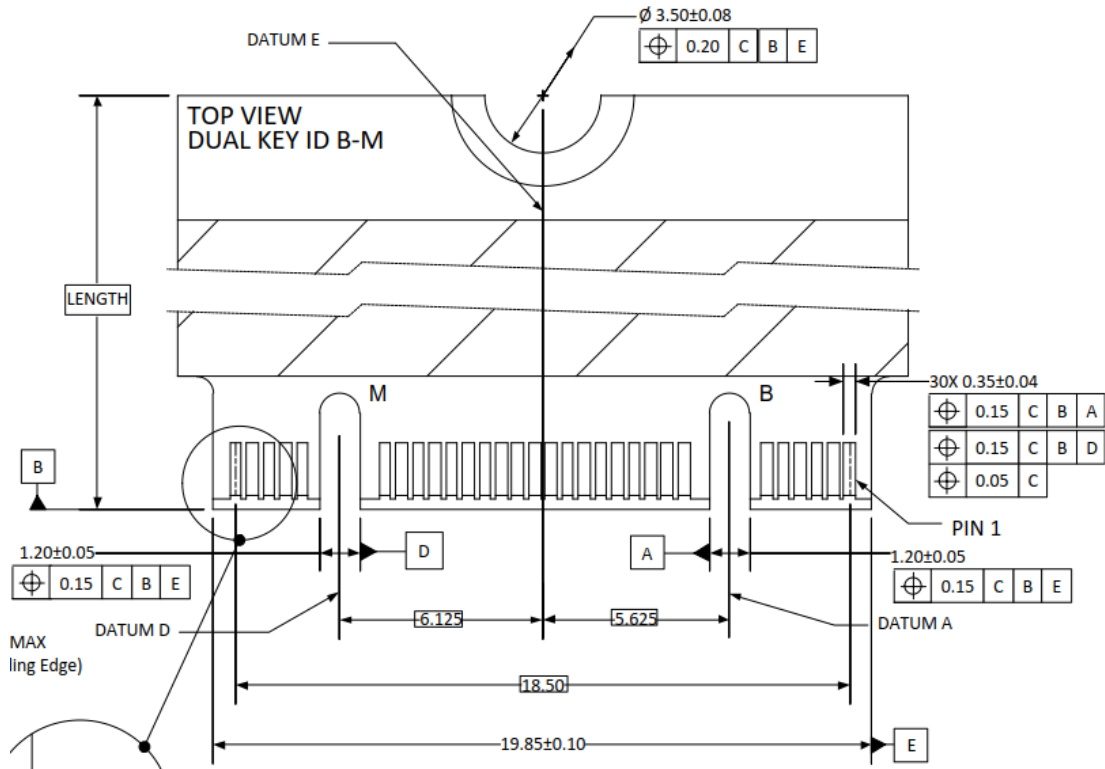
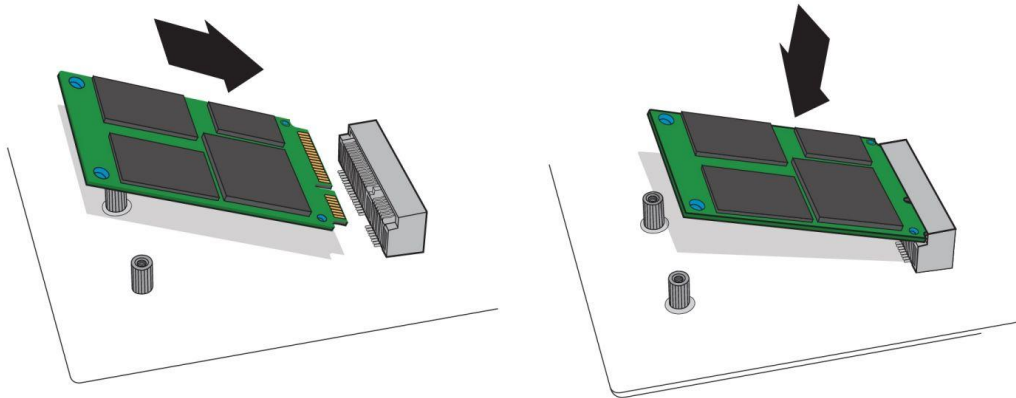

Figure 2.3 M.2 goldfinger
Figure 2.4 M.2CANFD installation diagram (similar to MiniPCIeCANFD)
As shown in Figure 2.3, the PACK interface board attached to the M.2CANFD interface card has a built-in 120-ohm terminal resistance. Use the DIP switch S1 to select whether the CAN channel terminal resistance is connected to the bus network. As shown in Figure 2.4, set whether the CAN channel uses the 120 ohm terminal resistance. Before delivery, the DIP switch is set to "ON" by default, that is, the 120 ohm terminal resistance is connected to the corresponding bus network.
M.2CANFD series interface cards do not have any switches and jumpers for assigning interrupts and I/O addresses, which are automatically assigned by the computer BIOS. Therefore, the board must be installed in the M.2 slot before you install the driver. Figure 2.3 shows the installation procedure: